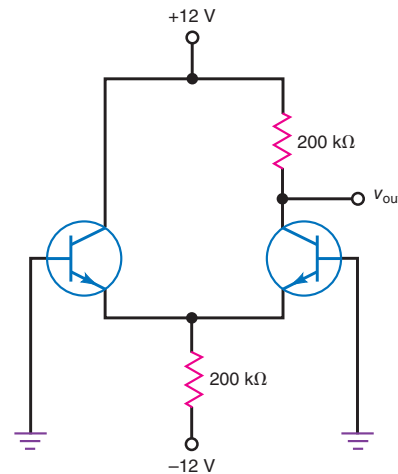

Figure 33-59
- 33.24 What are the ideal currents and voltages in Fig. 33-59?